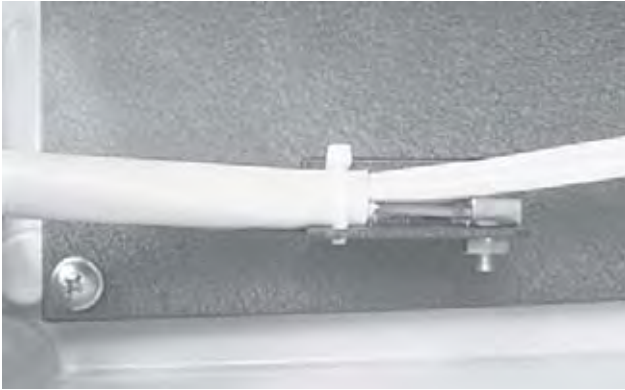

Figure 26
**13.3** When central member strain-relief is necessary, remove the drop cable strain-relief bracket and secure the cable to the bracket using a cable tie as shown (Figure 26).